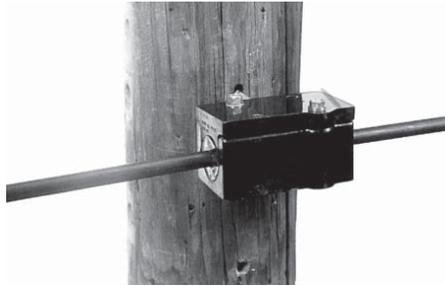

Figure 4 – FIBERLIGN Dielectric Support
5.1 FIBERLIGN Dielectric Supports (Figure 4) are used to support the cable at intermediate pole locations where line angle changes (direction or elevation) do not exceed 20 degrees.